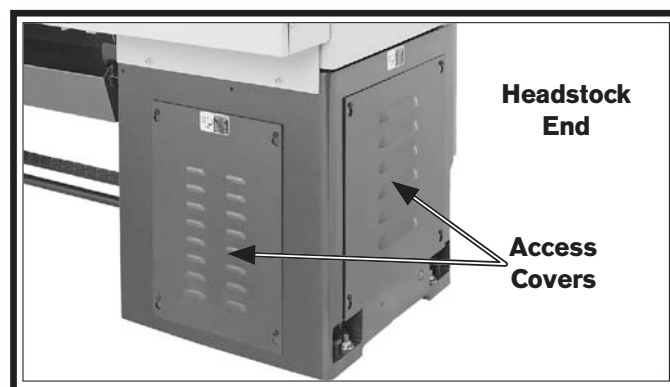

Figure 123. Locations of motor access covers.
2. Remove the motor access covers shown in **Figure 123**.